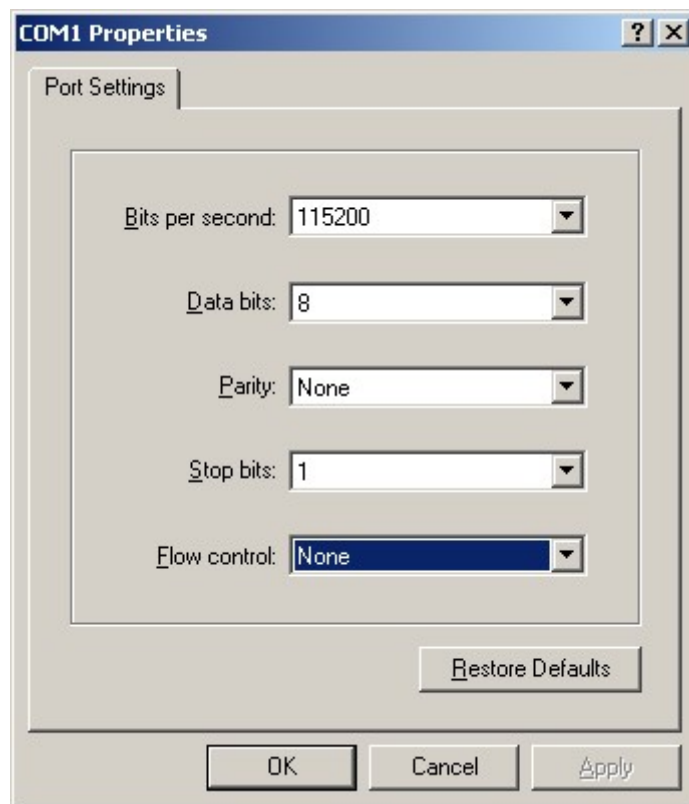

Fig. 3.1.3 Serial ports parameter setup
Step 3”: to select the communication port. Select “com1” communication port in Fig3.1.2, press “OK”, the dialogue box as Fig. 3.1.3 will appear.